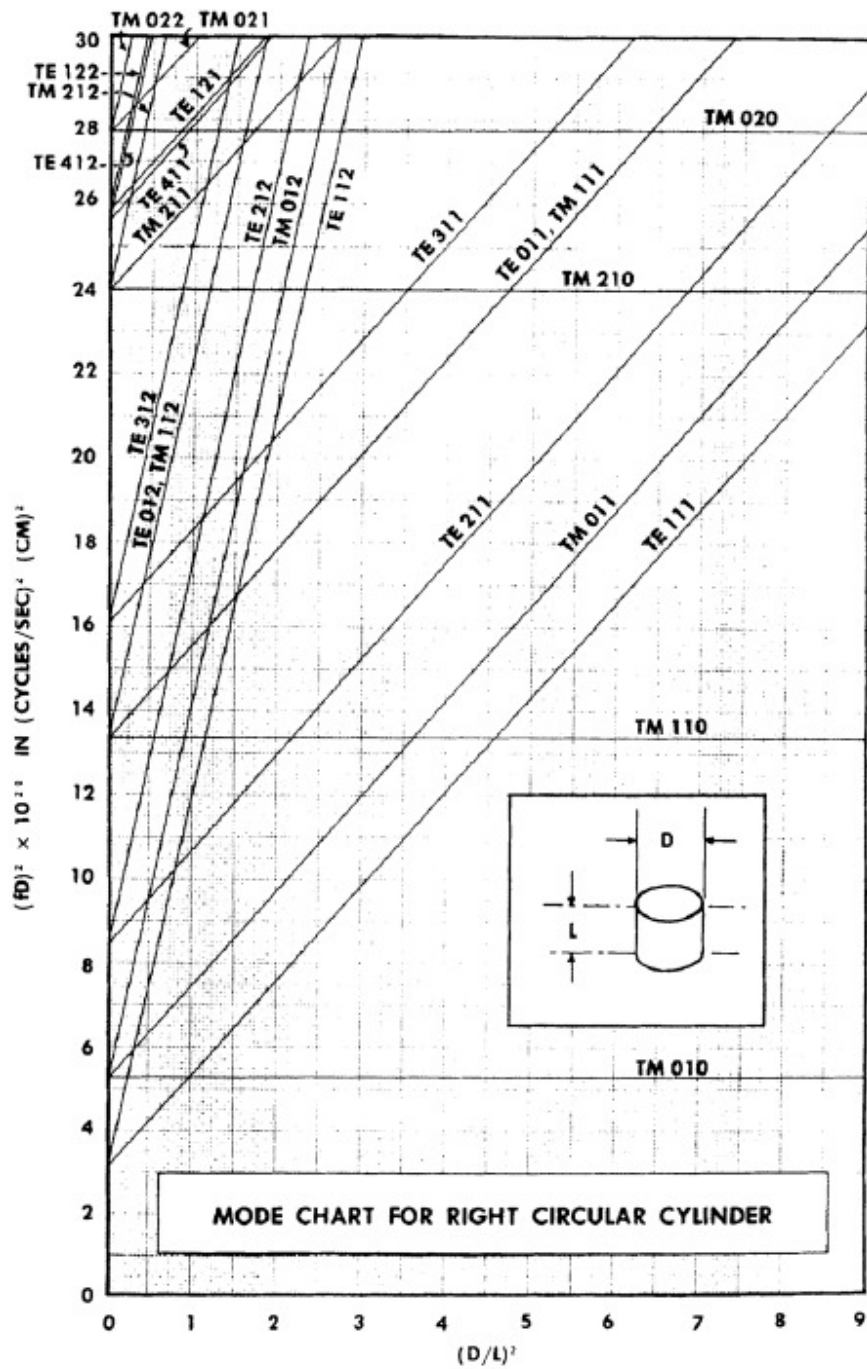

Fig. 4: Mode chart for a pillbox-type cavity (reprinted from *Microwave engineers handbook, Vol. 1*).
- ◆ Calculate the length (actual length for pillbox 2) using the given mode patterns in your handouts and determine the type of the modes. Compare with results obtained using Figs. 4 and 5.